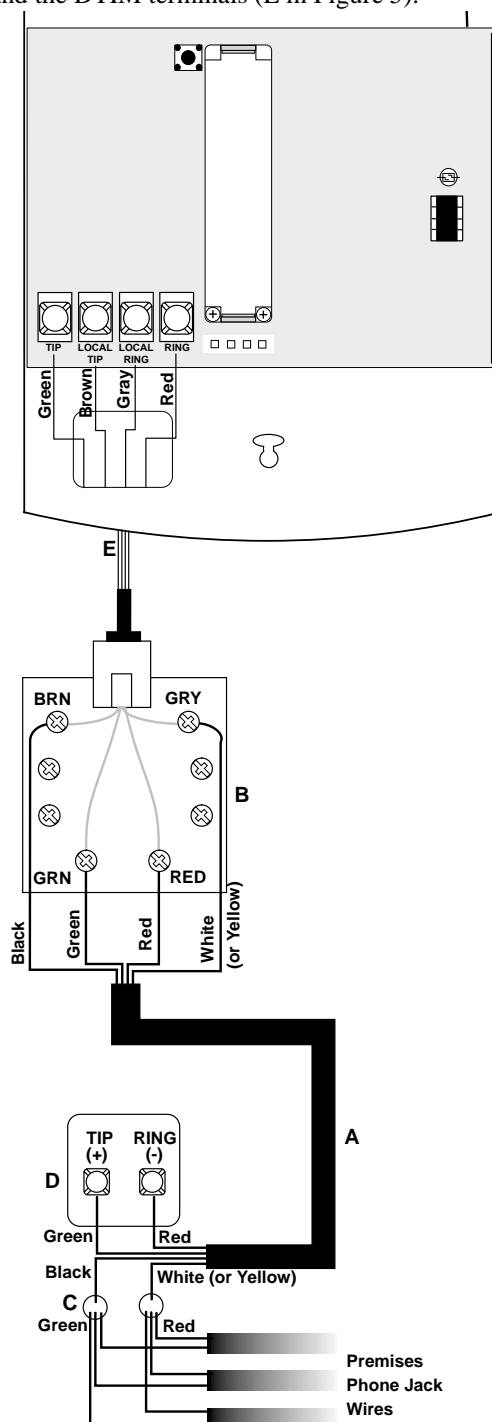

Figure 5. Full Line Seizure Wiring with an RJ-31X
1. Run a 4-conductor cable from the TELCO block to the RJ-31X (A in Figure 5).
2. Connect the 4-conductor cable wires to the RJ-31X (B in Figure 5).
3. Disconnect the Green and Red premises phone jack wires from the TELCO block and splice them to the 4-conductor cable Black and White (or Yellow) wires (C in Figure 5). Use weatherproof wire connectors for these splices.
4. Connect the 4-conductor cable Green and Red wires to the TELCO block TIP (+) and Red to RING (-) posts (D in Figure 5).
5. Connect the DB-8 cord (not included) to the RJ-31X and the DTIM terminals (E in Figure 5).